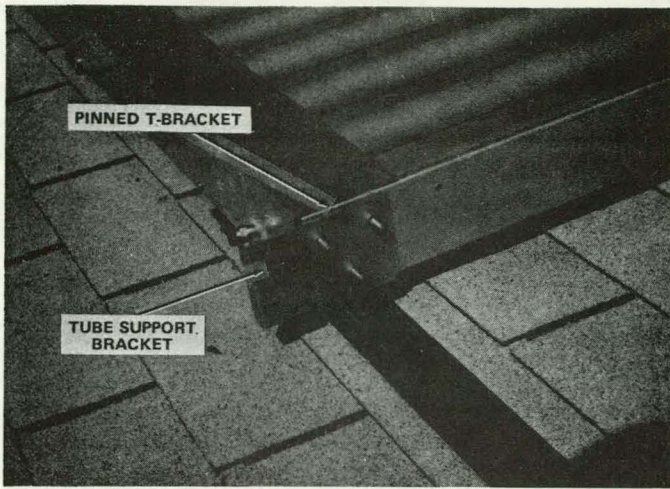

Figure 3-11. Internal Collectors are Fastened by Pinned T-Brackets
6. To mount the adjacent collector, place tube support brackets over the pins of the T-brackets, (Figure 3-11), at the header end of the collector and slide the next collector laterally until the pins are fully inserted and the collectors are snug one to the other.
4. To install subsequent internal collectors in the first row of the dual configuration, place one internal T-bracket (pinned), (Figure 3-11), into each UNISTRUT and insert into the corresponding holes in the collector frame. At the collector header end, a tube support bracket, (Figure 3-11), is inserted over the pins of the T-bracket at every other collector. Remove five of the six transition cover screws at the base of the collector and place the collectors on the UNISTRUT. With the brackets in place, slide the collector laterally until the pins are fully inserted and the collectors are snug one to the other.
4. Lift the header end of the first collector and align the outside mounting bracket hole with a hole in the collector. Temporarily insert one bolt (finger tight) through the assembly. Before inserting a bolt in the mounting bracket on the opposite side of the collector, align the adjacent collector, position a tube support bracket (similar to Figure 3-11, between the two collectors, and temporarily insert a bolt. This procedure is repeated in sequence until the header end of all the collectors in the row is attached.